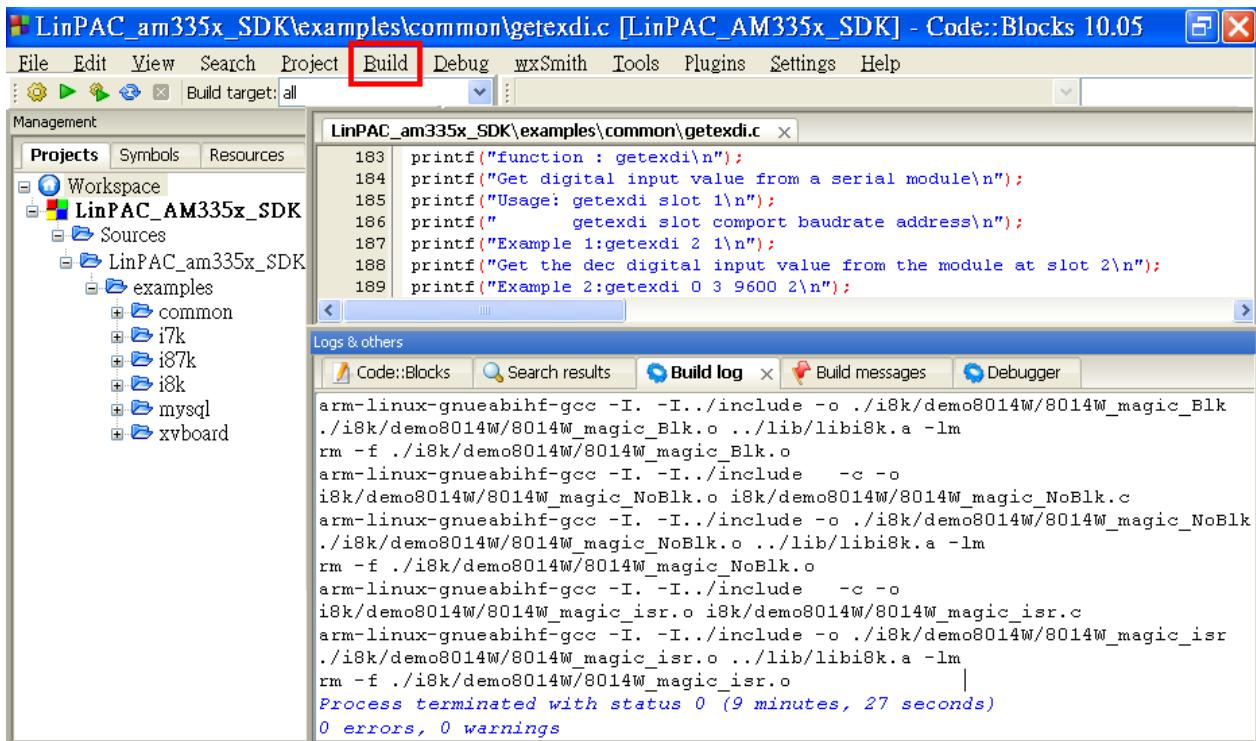

Fig. 3-21
- Click **Build** options, and it will compile the LinPAC_AM335x project completely (refer to Fig.3-21).